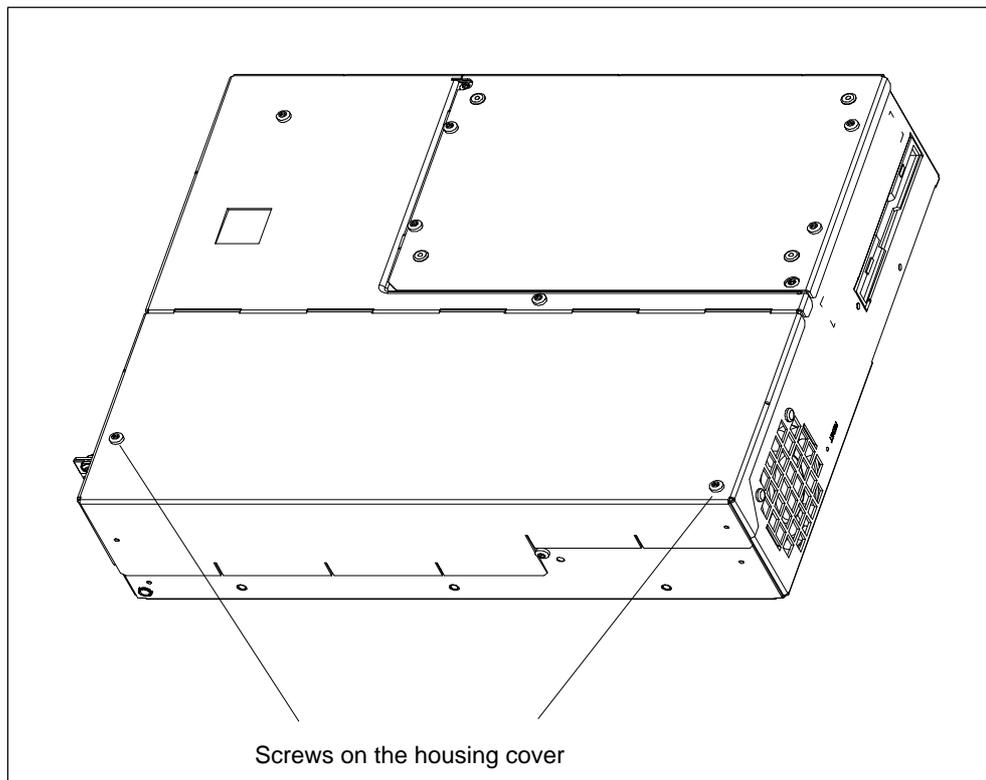

Figure 5-1 SIMATIC Box PC 620 Prepared for Opening
3. Undo the two screws (see fig. 5-1) on the housing cover.